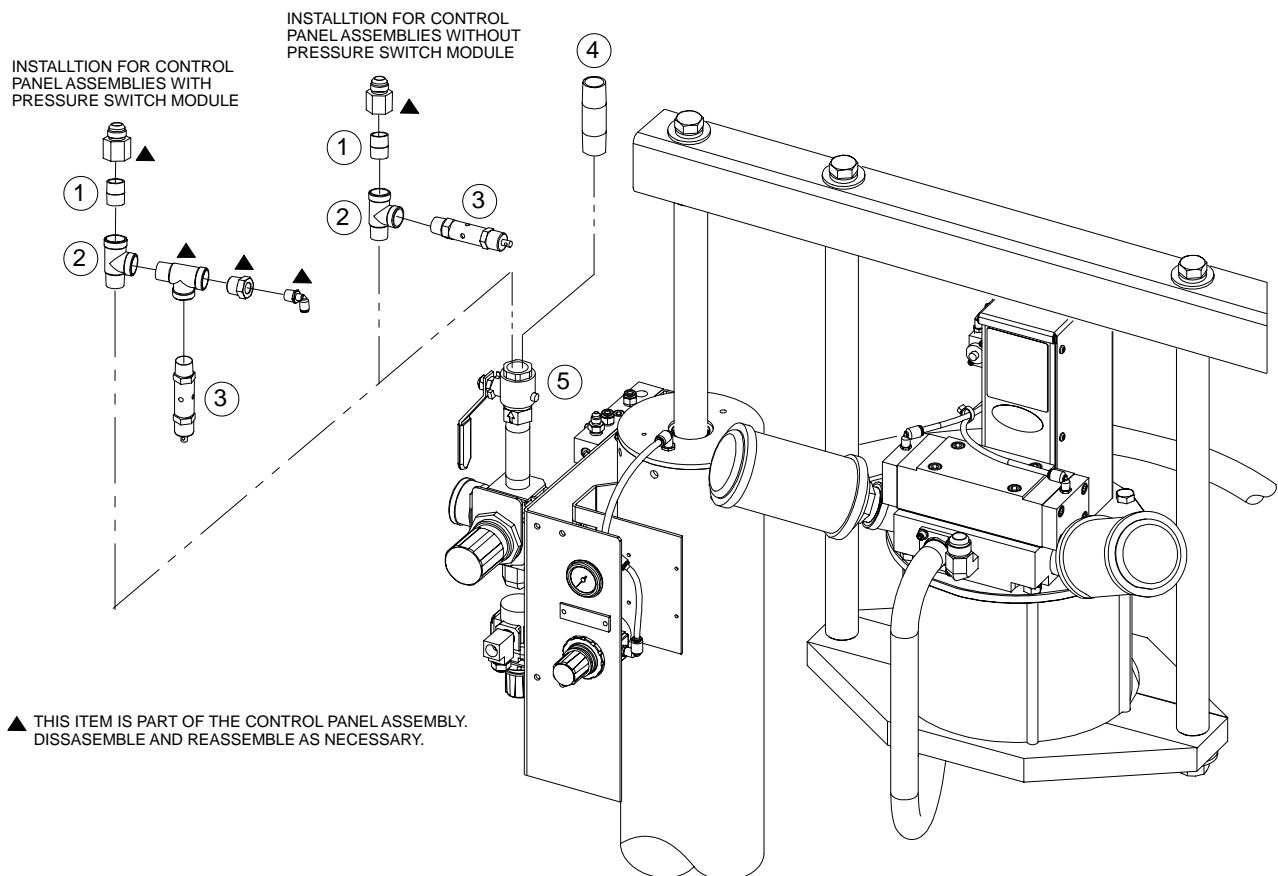

Figure 1 Rhino SD2/XD2 Pressure Relief Valves
1. See Figure 1 Remove the nipple (4) from the air motor ball valve (5) and discard.
See Figure 1 and the following parts list.